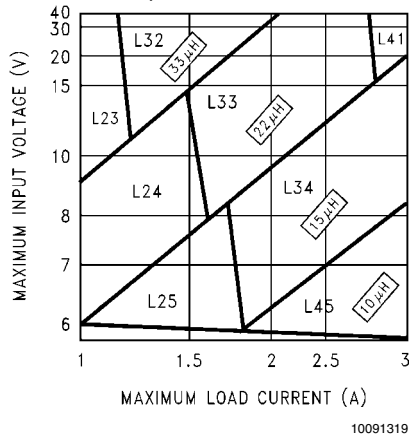
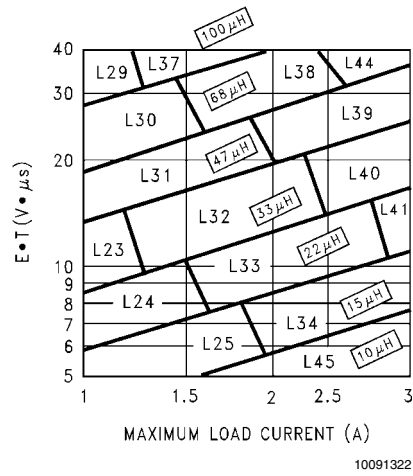

FIGURE 3. LM2673-3.3
FIGURE 6. LM2673-ADJ
**Step 3:** Determine the inductor required by using one of the four nomographs, *Figure 3* through *Figure 6*. Table 1 provides a specific manufacturer and part number for the inductor.
**Step 5:** Determine an input capacitor from Table 4 for fixed output voltage applications. Use Table 2 to find the specific capacitor type. For adjustable output circuits select a capacitor from Table 2 with a sufficient working voltage (WV) rating greater than  $V_{in\ max}$ , and an rms current rating greater than one-half the maximum load current (2 or more capacitors in parallel may be required).
**Step 3:** Use the nomograph for the 3.3V device, *Figure 3*. The intersection of the 16V horizontal line ( $V_{in\ max}$ ) and the 2.5A vertical line ( $I_{load\ max}$ ) indicates that L33, a 22 $\mu$ H inductor, is required.
**Step 3:** To use the nomograph for the adjustable device, *Figure 6*, requires a calculation of the inductor Volt•microsecond constant ( $E \cdot T$  expressed in  $V \cdot \mu s$ ) from the following formula:
Using *Figure 6*, the intersection of  $27V \cdot \mu S$  horizontally and the 2A vertical line ( $I_{load} \text{ max}$ ) indicates that L38, a  $68\mu H$  inductor, should be used.
**Important Note:** When using the adjustable device in low voltage applications (less than 3V output), if the nomograph, *Figure 6*, selects an inductance of  $22\mu H$  or less, Table 6 does not provide an output capacitor solution. With these conditions the number of output capacitors required for stable operation becomes impractical. It is recommended to use either a  $33\mu H$  or  $47\mu H$  inductor and the output capacitors from Table 6.